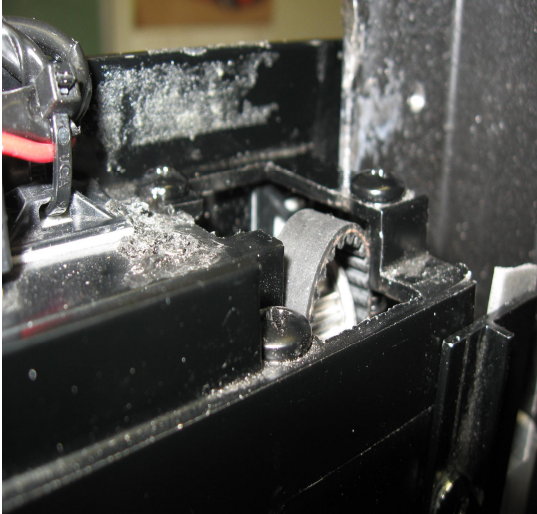

Figure 10
6) Slide the belt over the upper pulley as indicated in figure 10. Warning! It is important that the upper and lower shafts not be rotated during this procedure to maintain timing of the shafts.